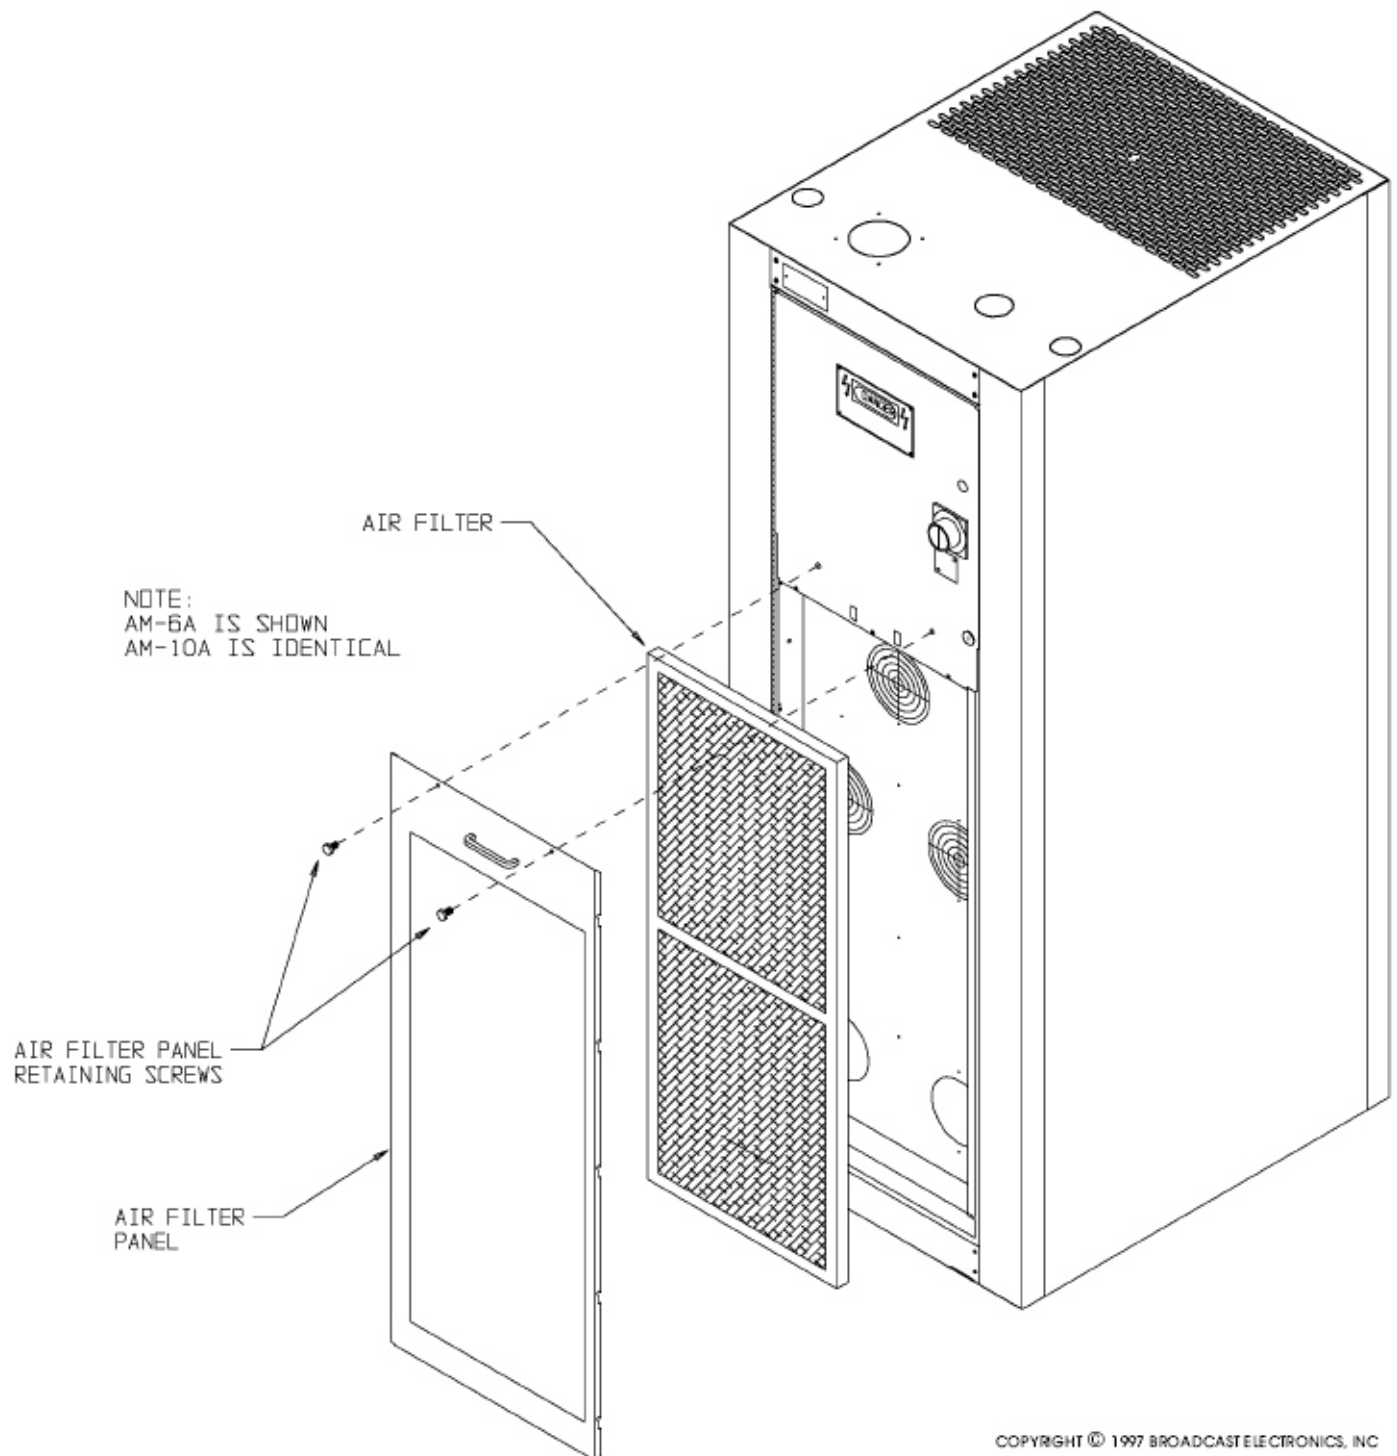

FIGURE 5-1. Removing the Air Filter
1. Refer to Figure 5-1 and remove the two filter housing screws.